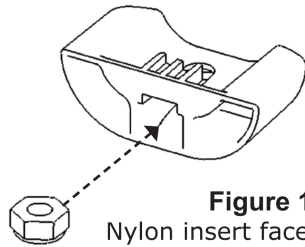

Figure 1
4. Insert nuts into nut retainers (Figure 1).